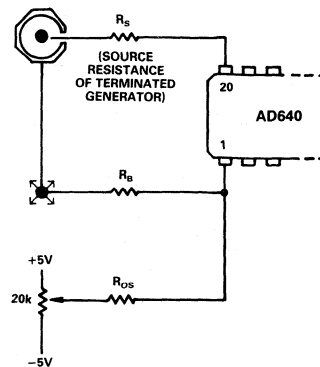

Figure 25. Optional Input Offset Voltage Nulling Circuit; See Text for Component Values
In most applications there will be no need to use any offset adjustment. However, a general offset trimming circuit is shown in Figure 25.  $R_S$  is the source resistance of the signal. *Note:  $500\text{rf}$  sources may include a blocking capacitor and have no dc path to ground, or may be transformer coupled and have a near zero resistance to ground.* Determine whether the source resistance is zero,  $25\Omega$  or  $50\Omega$  (with the generator terminated in  $50\Omega$ ) to find the correct value of bias compensating resistor,  $R_B$ , which should optimally be equal to  $R_S$ , unless  $R_S = 0$ , in which case use  $R_B = 5\Omega$ . The value of  $R_{OS}$  should be set to  $20,000R_B$  to provide a  $\pm 250\mu\text{V}$  trim range. To null the offset, set the source voltage to zero and use a DVM to observe the logarithmic output voltage. Recall that the LOG OUT current of the AD640 exhibits an *absolute value response* to the input voltage, so the offset potentiometer is adjusted to the point where the logarithmic output "turns around" (reaches a local maximum or minimum).
R4 is identical to R2, and in shunt with R3 (270 $\Omega$  thin film) forms a 27 $\Omega$  resistor with the same TC as the output resistance of the attenuator. By connecting Pin 1 to ATN LOW (Pin 2) this resistance minimizes the offset caused by bias currents. The offset nulling scheme shown in Figure 25 may still be used, with the external resistor  $R_B$  omitted and  $R_{OS} = 500k\Omega$ . Offset stability is improved because the compensating voltage introduced at Pin 20 is now PTAT. Drifts of under 1 $\mu V/^\circ C$  (referred to Pins 1 and 20) can be maintained using the attenuator.
Cascaded AD640s can be used in dc applications, but input offset voltage will limit the dynamic range. The dc intercept is  $6\mu\text{V}$ . *The offset should not be confused with the intercept*, which is found by *extrapolating the transfer function from its central "log linear" region*. This can be understood by referring to Equation (1) and noting that an input offset is simply additive to the value of  $V_{IN}$  in the numerator of the logarithmic argument; it does not affect the denominator (or intercept)  $V_X$ . In dc coupled applications of wide dynamic range, special precautions must be taken to null the input offset and minimize drift due to input bias offset. It is recommended that the input attenuator be used, providing a practical input range of  $-74\text{dBV}$  ( $\pm 200\mu\text{V}$  dc) to  $+6\text{dBV}$  ( $\pm 2\text{V}$  dc) when nulled using the adjustment circuit shown in Figure 25.